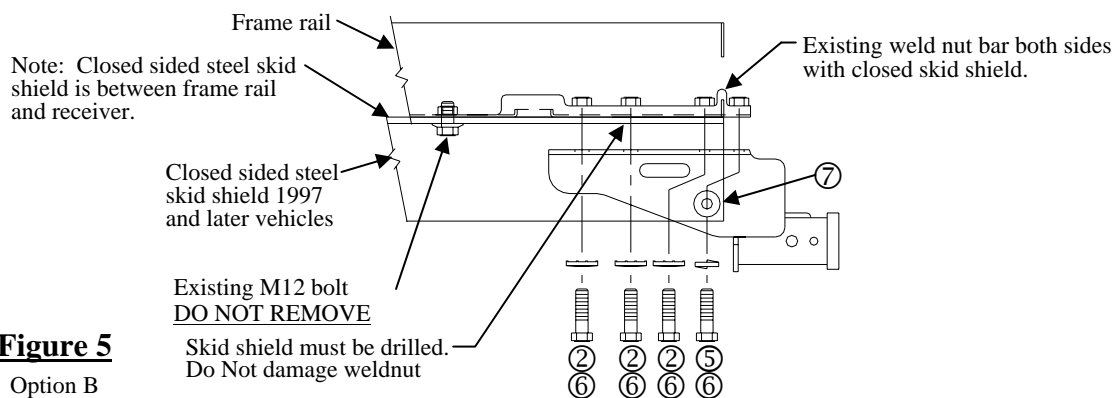

Figure 5
Option B – See Figure 5
C. Install four (4) M12 bolts with conical washers provided (the rearmost attachment has a hardened flat washer between receiver flange and lock washers), each side as shown in Figure 5.